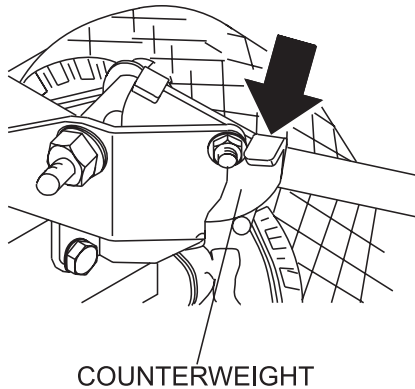

Figure 21. Outriggers (Released)
6. To unlock outriggers, push downward on the counterweight lever indicated by arrow (Figure 21).